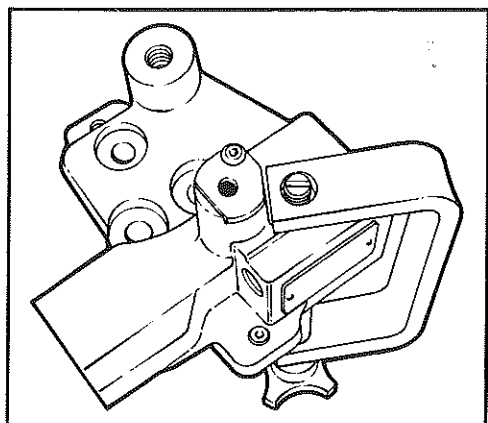

Fig. 12
2. Place the hole in the *Jacobs* slave piston tool, P/N 17397, (Fig. 12) over the safety screw assembly.